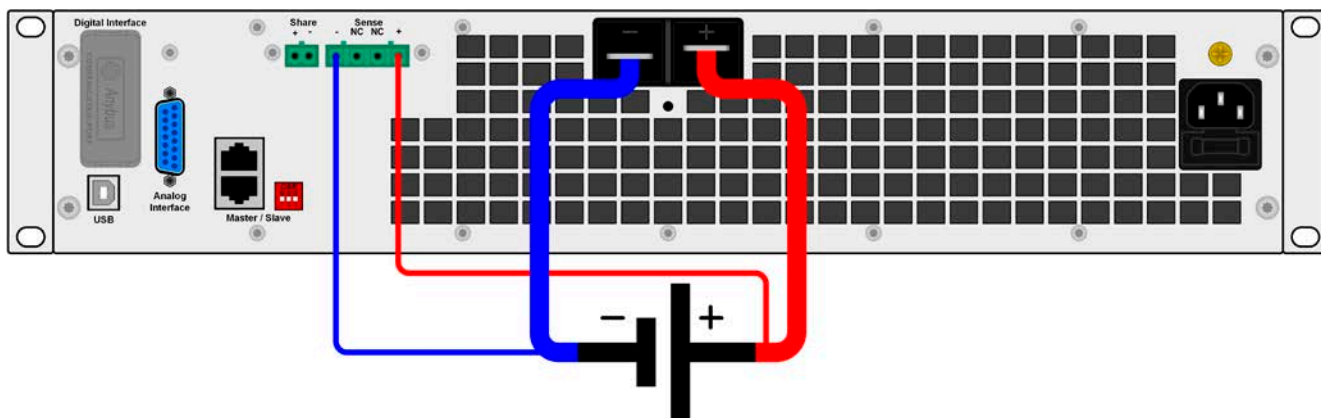

Figure 7 - Principle of wiring the remote sensing
- *Remote sensing is only effective during constant voltage operation (CV) and for other regulation modes the sense input should be disconnected, if possible, because connecting it generally increases the oscillation tendency.*
- *Sensing cables must be connected + to + and - to - at the source, otherwise the sense input of the electronic load can be damaged. For an example see Figure 7 below.*